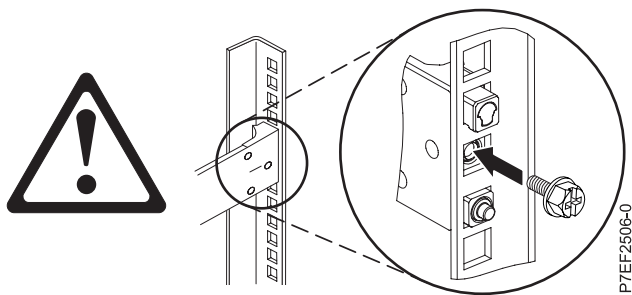

Figure 6. Reinstalling the screw
4. Reinstall the screw that was removed in step 2 on page 6, as shown in Figure 6.